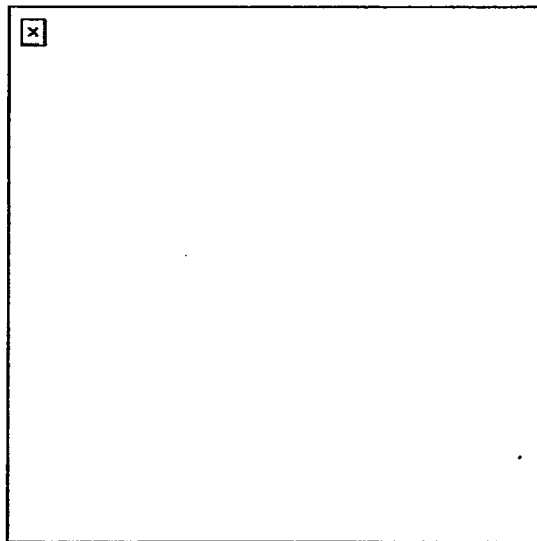

Figure 191-381-1258-1
2. Execute a squad line formation (Figure 191-381-1258-1).